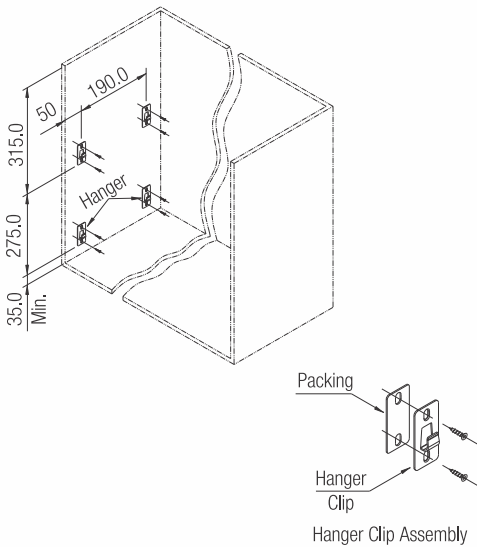

Fig. 2
2. Fix the hanger to the side board of the cabinet as shown in Fig. 2.
3. Sizes 275 & 315 (shown in Fig .2) are for reference only, sizes may vary depending on the height of cabinet.
Fit holder base and screw holder with screw as shown (Refer Fig.2).